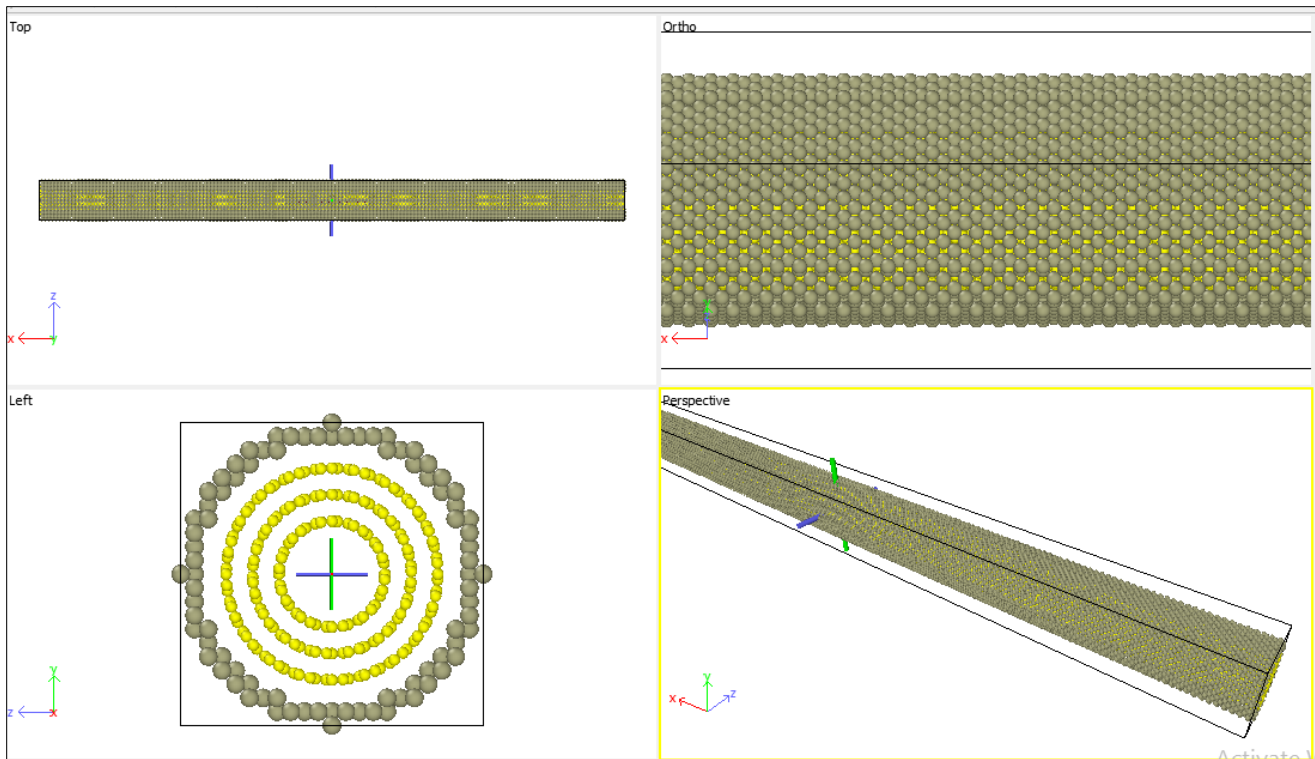

Figure 1
Executable program files to create hollow cylindrical Carbon Nanotube (CNT) structures are available. But, as the lattice parameter of Nickel (Ni) and its crystal structure (BCC) are different from CNT, those files are futile in order to create a Ni layer over CNT. Hence, a suitable hollow cylindrical tube is trimmed from cubical structure of Ni and it is then added to the CNT using LAMMPS, a Molecular Dynamics (MD) Simulation code, as shown in Figure 1.